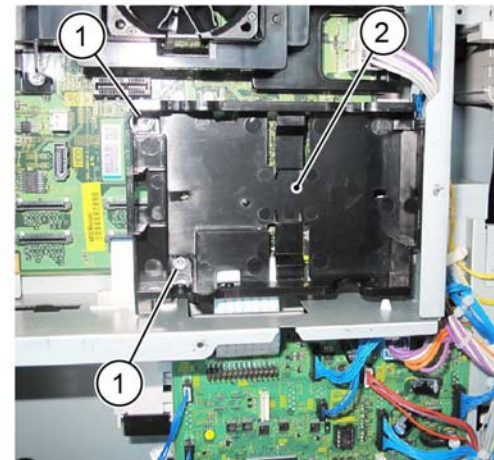

Figure 3 HDD bracket removal
6. If the machine had an HDD assembly installed, remove both screws (1), then the HDD bracket (2), Figure 3.